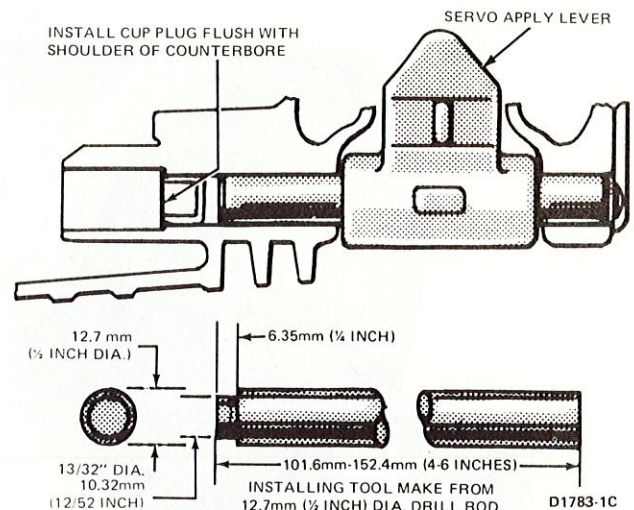

FIG. 30 Servo Apply Lever Installation
- Working from inside of the transmission case, carefully drive on the servo apply lever shaft to remove the cup plug. The shaft (Fig. 30) can be withdrawn from the case by hand.
- Using the fabricated tool shown in Fig. 30, drive the cup plug into position in the case. Be sure the plug is flush with the shoulder of the counterbore. The cup plug may be coated with Loctite, Part No. E0AZ-19554-A or equivalent, before installation.